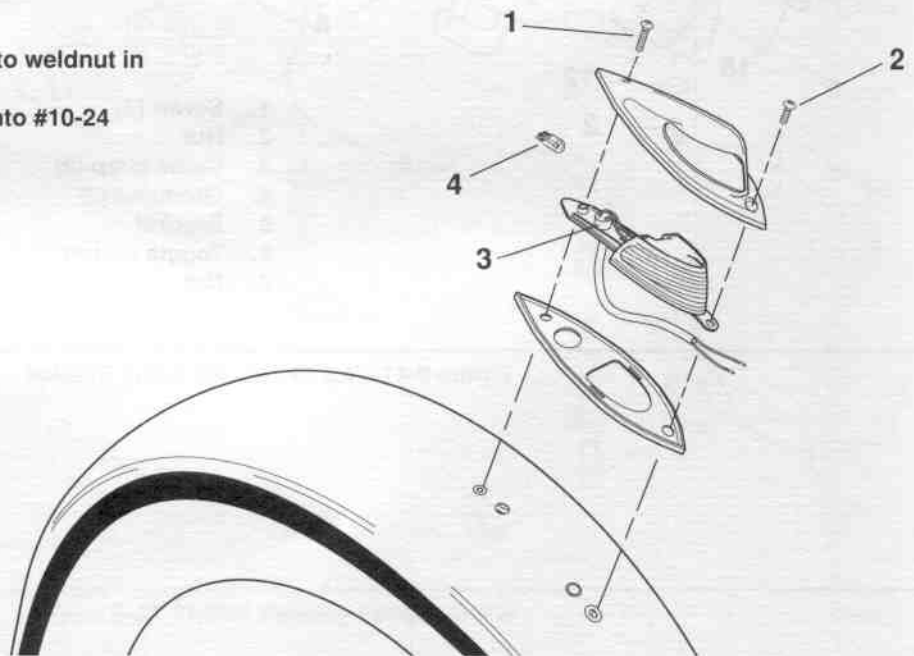

Figure 8-42. Front Fender Lamp (FLSTS)
5. See Figure 8-42. Remove rear lamp screw (1), then remove front screw (2) while holding nut from inside of fender.
6. Remove lamp housing as an assembly, and pull rubber grommet (3) through fender.